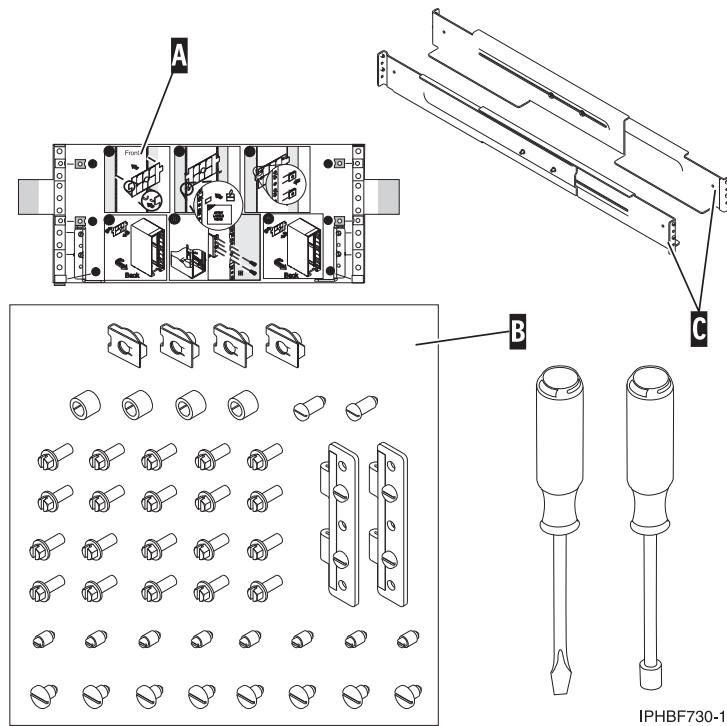

Figure 94. Parts inventory
3. Locate the rack-mounting template **(A)**, the rack-mounting hardware kit **(B)**, and the system rail assemblies **(C)** that were included with your expansion unit. See Figure 94 on page 93 for the relative locations of these items. The system rails are identical.